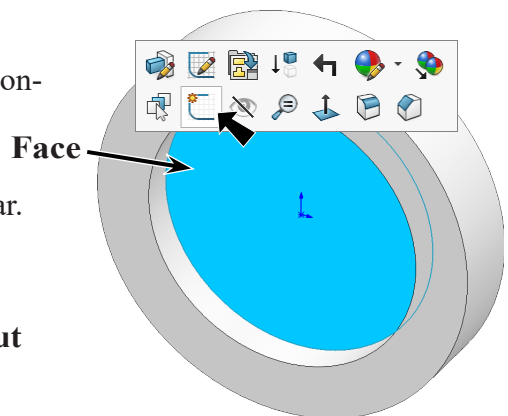

Fig. 9
Step 1. Click the **inside face** and click **Sketch**  on the context toolbar, **Fig. 9**.